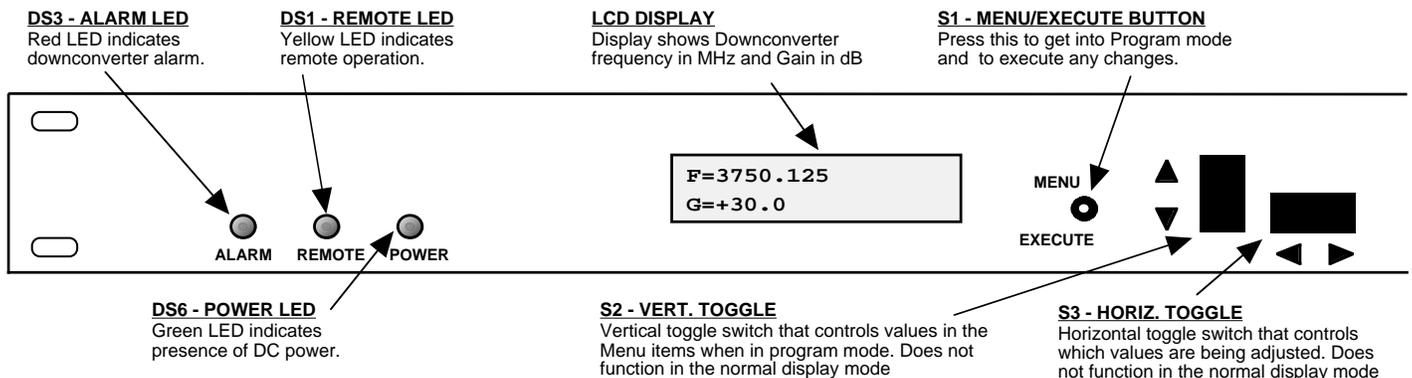

FIGURE 2.3 2016-38 Front Panel Controls and Indicators
Figure 2.3 shows the front panel controls and indicators.
6. Be sure DS6 (green, DC Power) is on and DS3 (red, Alarm) is off (Figure 2.3).
Alarm indications appear on the LEDs (see figure 2.3).